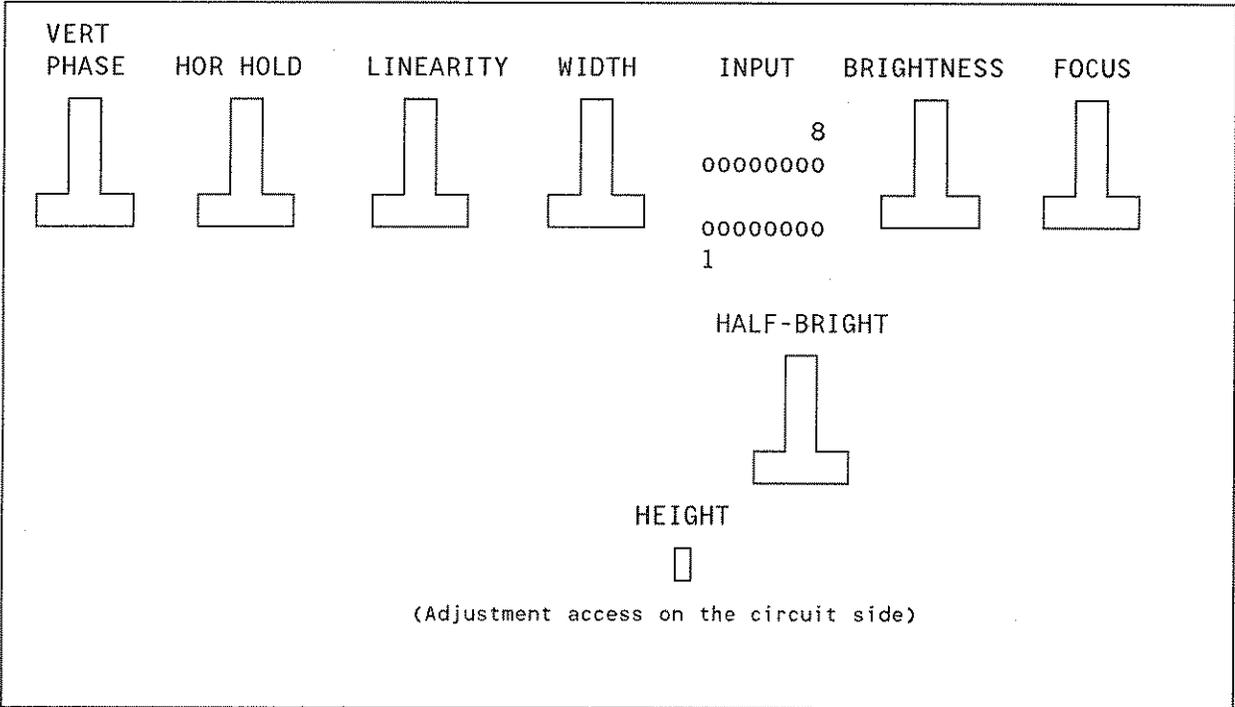

Figure 10-3. Display Adjustment Locations.
- 7. Adjust BRIGHTNESS control pot to minimum (full counter-clockwise). See figure 10-3 for the display adjustment locations.
7. Adjust the BRIGHTNESS control pot until the Grid Adjustment Pattern is visible. See figure 10-3 for the display adjustment locations.
8. Adjust the HEIGHT and VERT PHASE (position) until the test Test Pattern fills the screen vertically (figure 10-3).